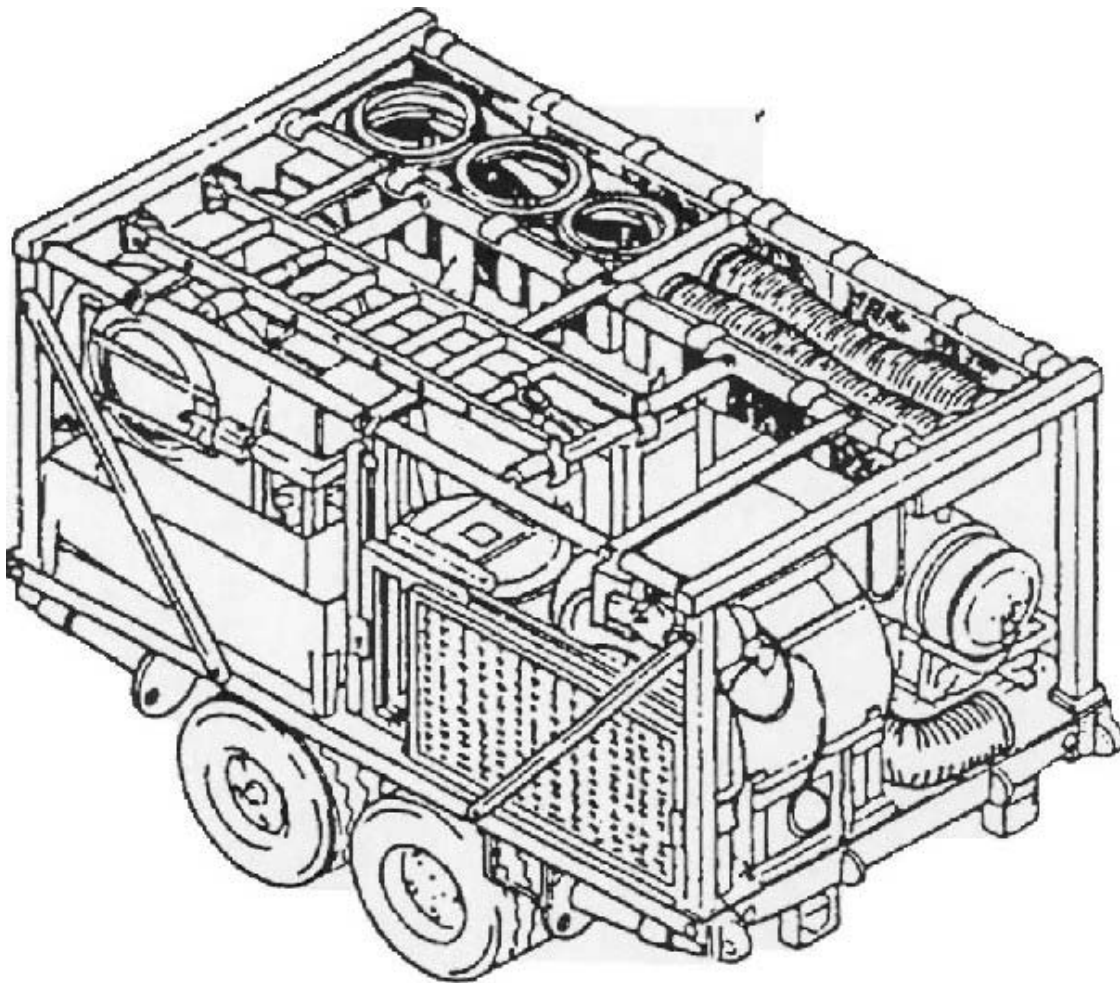

Figure 3-12
1. Position the Trailer. (See Figure 3-12)